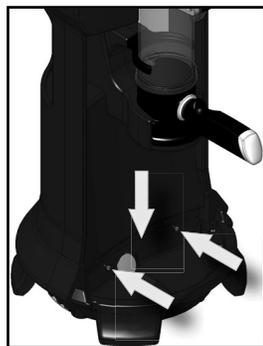

FIG 1
1. Remove front access panel. FIG 1 & 2
1. If board will not enter program modes, check position of program switch. FIG 1